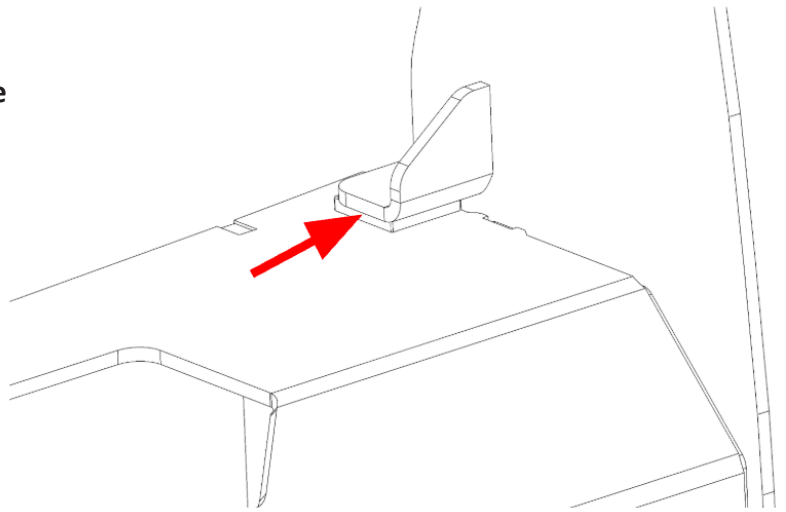

Figure 11
- 13. Install the provided rubber bump stops underneath the tube assembly stopped plate by removing the adhesive backing and placing it on the winch tray. Figure 11.**